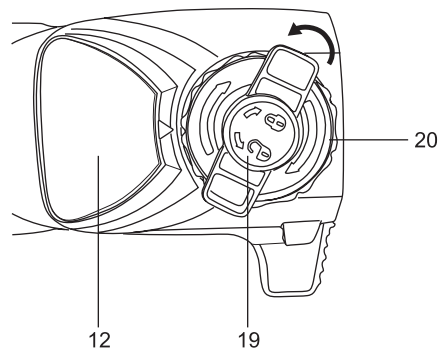

Fig. 5
1. Use only a guide bar (13) and saw chain (14) according to the technical data of the pole saw.
2. Place the product on a suitable flat surface with the side cover (12) facing upwards.
3. Unscrew the locking wheel (19) in direction  and then remove it together with the side cove (12). (Fig.5)